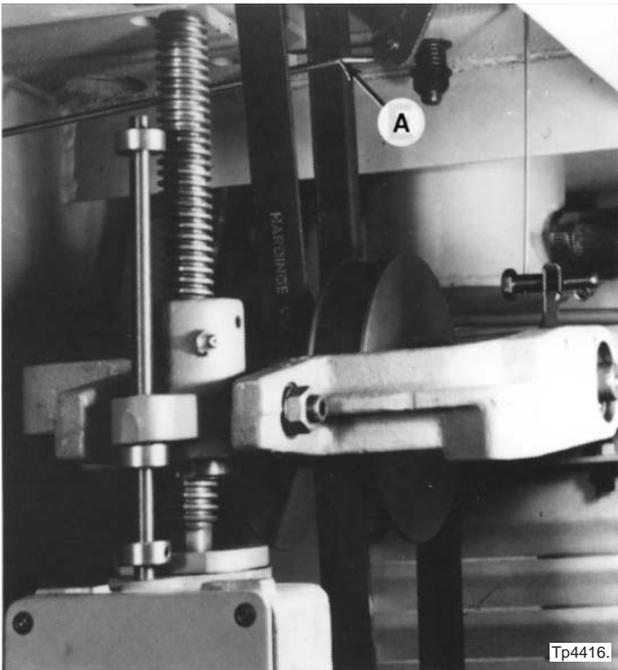

Figure 3.10 - Speed Change Pullrod
20. Remove the cotter pin from the end of speed change pull rod "A", Figure 3.10, which passes through the headstock belt in the motor compartment.
38. Move the headstock belt over the end of pull rod "A", Figure 3.10.
41. Reconnect pull rod "A", Figure 3.10, and insert the cotter pin removed in step 20.